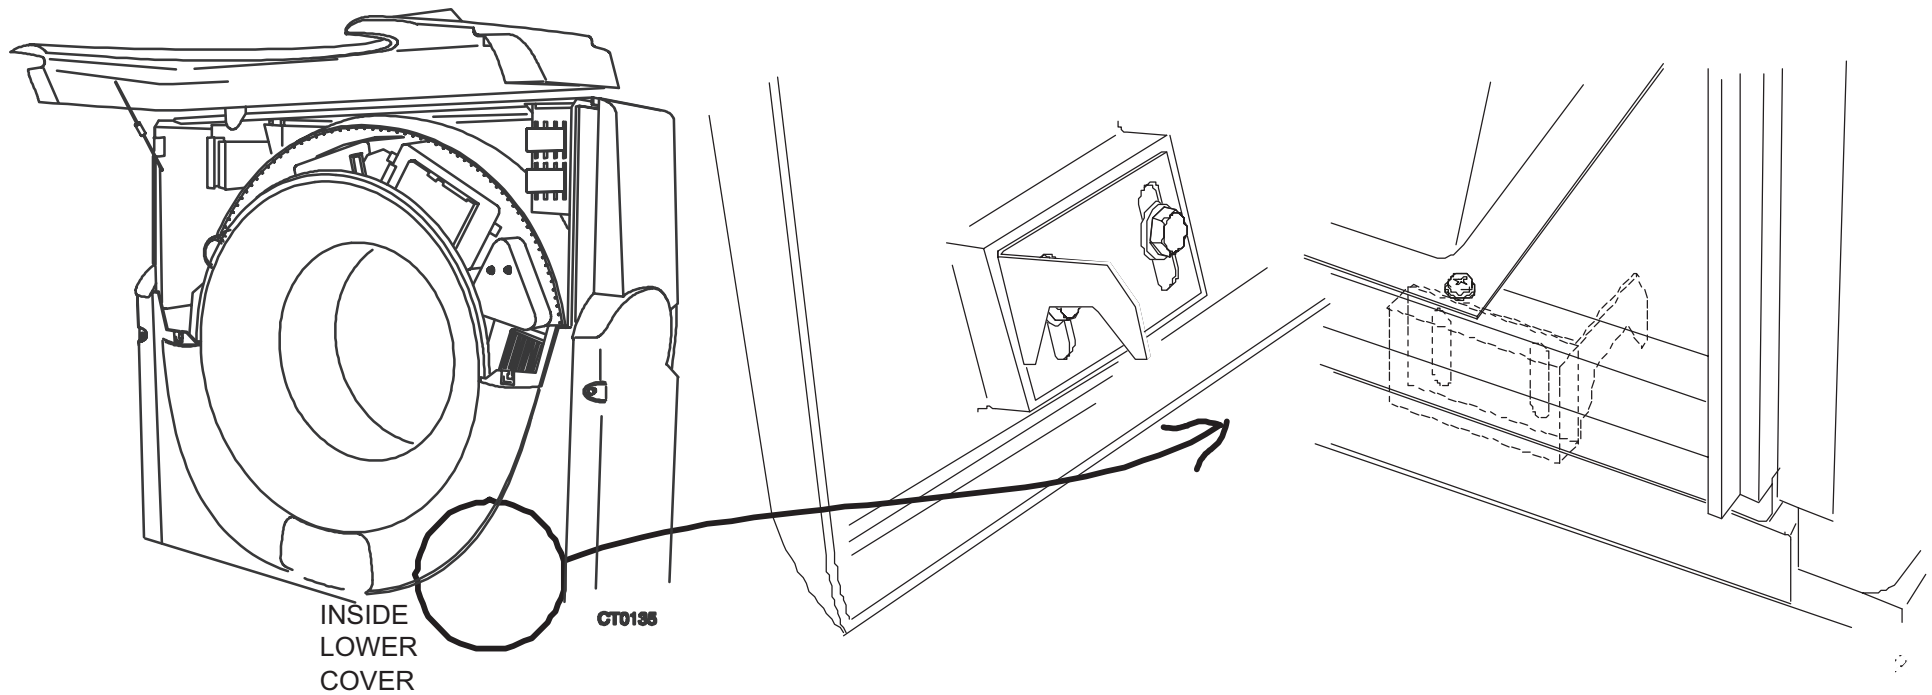

FIGURE 229 GANTRY FRONT LOWER COVER – DETAIL
1. Remove the screws that secure the lower Gantry cover. Lift the cover up and off the bottom latches and slide the cover away from Gantry. Store the cover in a secure place.. Refer to Figure 229.